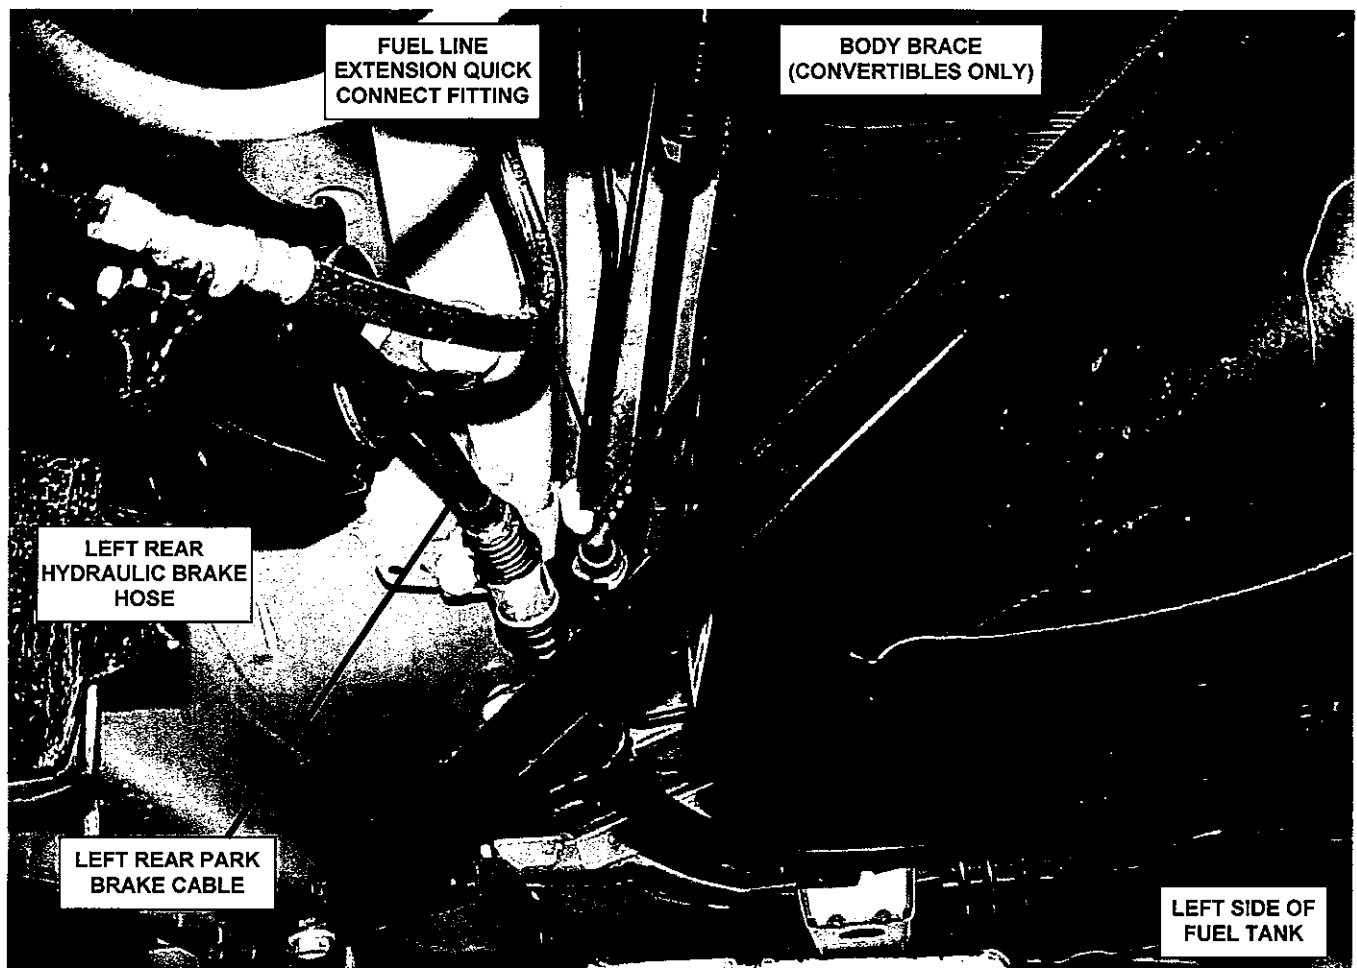

Figure 3 – Viewed from Under Vehicle
12. Disconnect the fuel line extension quick connect fitting where it meets the underbody fuel line bundle (Figure 3).